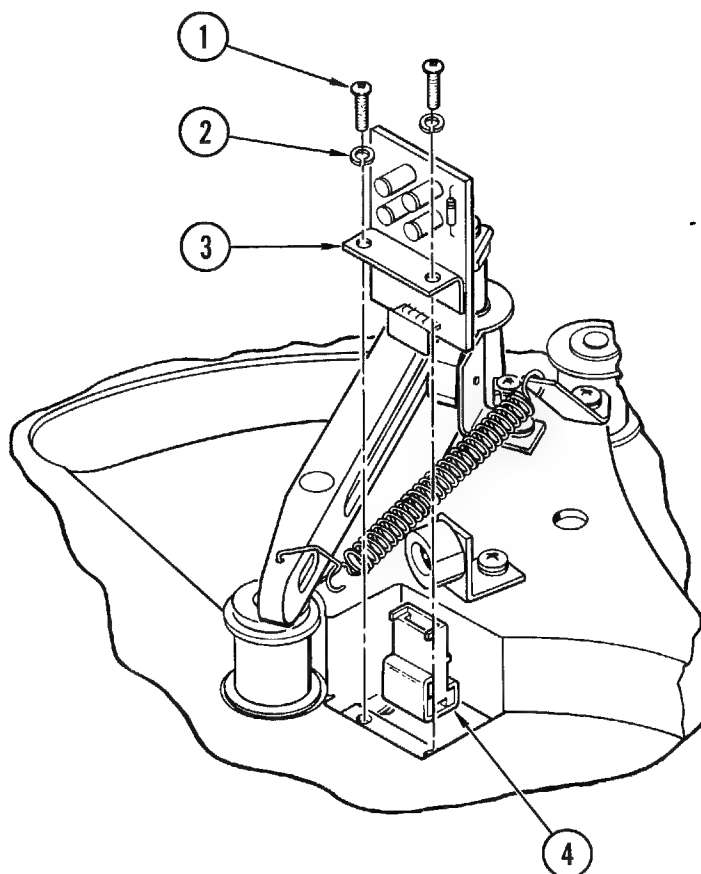

Figure 4-12. EOT/BOT Assembly
4-26. **Removal and Replacement (Figure 4-12).** Place transport in operator maintenance access position (paragraph 4-2) and proceed as follows:
- a. Holding compliance arm aside to provide access to mounting screws, remove two screws (1, Figure 4-12) and lock washers (2) and retain for reassembly.
- b. Remove EOT/BOT assembly (3), carefully pulling wires and connector (4) through hole in top plate assembly.